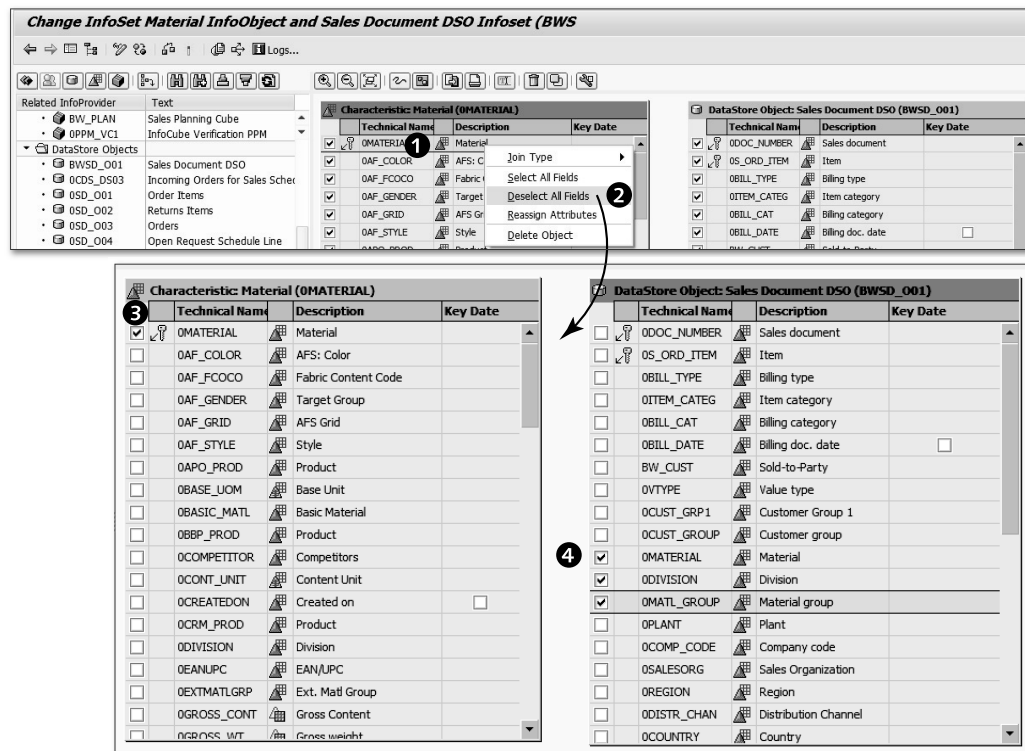

Figure 6.24 Selecting Required Fields
anywhere on the source object for which you want to deselect all of the fields. For example, we want to deselect all of the fields for the OMATERIAL source object. Open the context menu by right-clicking somewhere near the spot shown in ❶ of Figure 6.24, and then select Deselect All Fields ❷. You can perform similar steps on the BWSD_001 source object and deselect all of the fields of DSO BWSD_001.